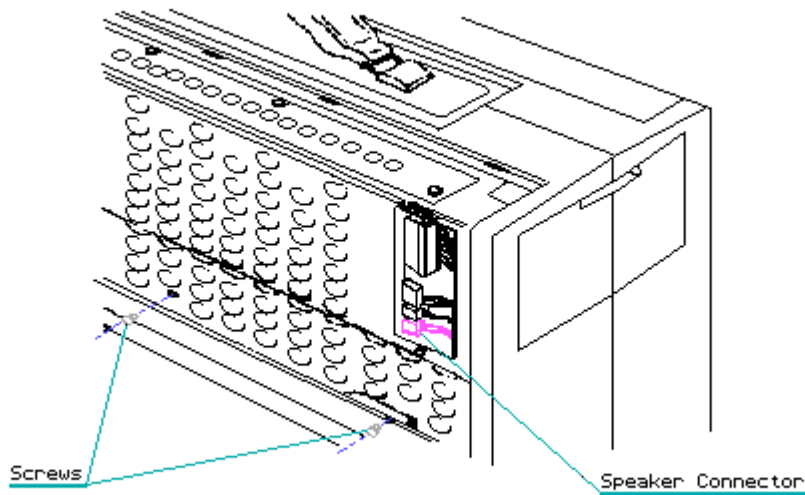

Figure 7.12-3. Disconnecting the Speaker Connector and Removing the Two Bottom Chassis Monitor Enclosure Screws
7. Disconnect the speaker connector from the system board. Cut any cable ties that hold the speaker cable in place (Figure 7.12-3).
bottom of the chassis (Figure 7.12-3).